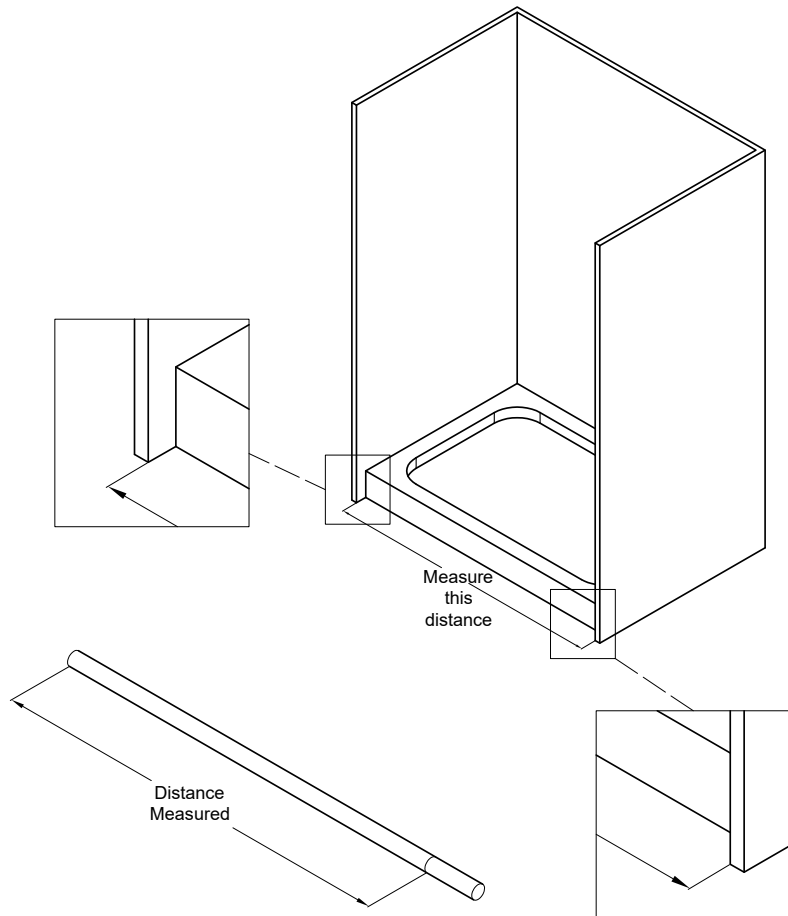

Figure 1
1. Take a precise measurement of the distance between the two completed walls. This distance is labeled as “W” on the diagram. Refer to Figure 1 for details.
2. For your convenience, the Upper Guide Rail (03) has been pre-cut for shower models with a width of 48” or 60”.